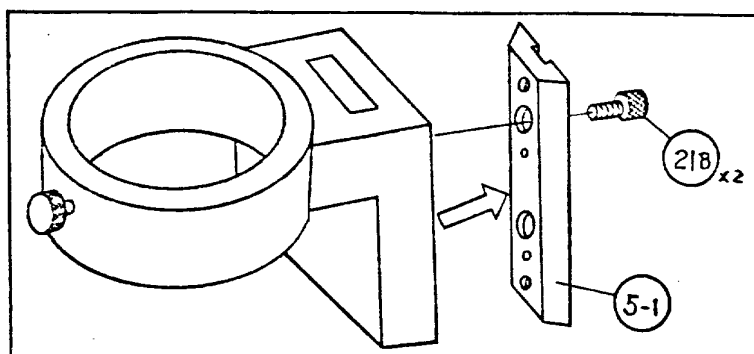

Fig. 65
- 4) Unscrewing the HS bolts (21B)x2, remove the dovetail (5-1) (Fig. 65).